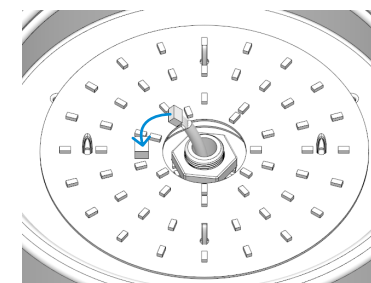

Fig. 4.3
4.3 Insert the wire plug into the light kit terminal block as shown in Fig. 4.3.